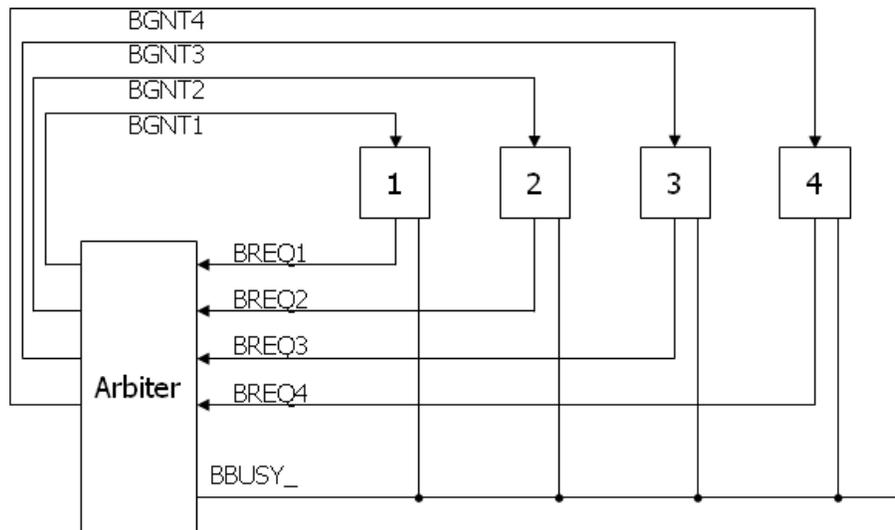

Figure 3 Circuit of Centralized fixed-priority arbitration
Whenever a device needs to communicate with another device connected to the main-board, it must do so over the bus. Because the bus is shared amongst all the devices, a method for deciding which device gets to use the bus must be used. The method used to determine who gets access to the bus and when is referred to as bus arbitration. The bus arbitration mechanism is designed so that high priority devices like the processor and RAM get first access to the bus, while other device (disks, video cards, sound cards etc.) get lower priority, and often have to wait to access the bus. There are several modes can used for the arbitration. Among them, we will use centralized fixed-priority arbitration which has simple circuit to implement and shown in Figure 3.
In Figure 3, there are three types of signals used. BREQ signals are generated by CPU, memory and peripherals. If they want to use bus to read or write, they must be allocated from the arbiter. To get the right to use the bus, it sends request signal which is BREQ to the arbiter. The arbiter sends grant signals to the device which sent request signals if the bus is free and can be used. If two or more request signals are generated, the arbiter computes their priorities and send only one grant signal to the device has higher priority. If the bus is free, the status of BBUSY_ signal is high (logic 1). If any device gets the right to use the bus, they read data from the bus or write data to the bus while it makes BBUSY_ signal being low state (logic 0). After it completes its operation related to bus, release the BBUSY_ signal which will go high state back. For example, (1) if master 3 sends the request signal (BREQ3) to the arbiter while master 1 is using the bus, (2) the arbiter sends the grant signal (BGNT3). (3) When master 1 completes its operation and make BBUSY_ signal inactive (goes high), (4) master 3 makes BBUSY_ signal active (goes low) and starts to read or write to the bus.